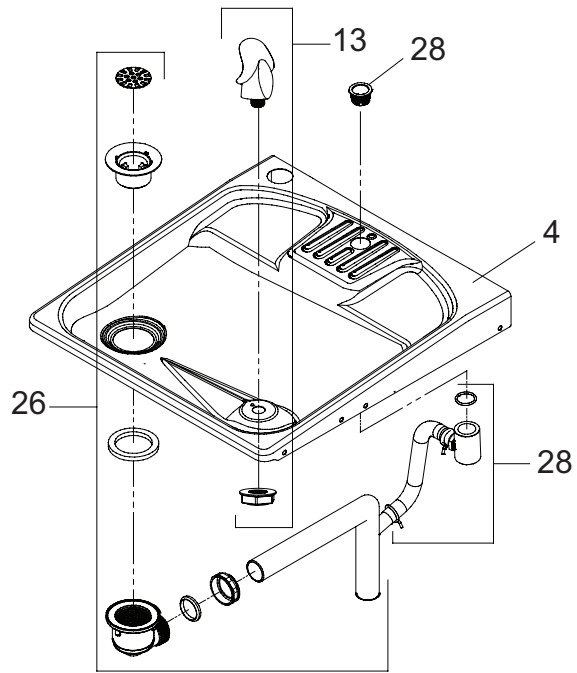

Fig. 9
- 1) Remove two (2) mounting screws with 5/32" Allen wrench holding top cover to Bottle Filler (See Fig. 9). Remove top cover. Note do not discard mounting screws, they will be needed to reinstall top cover.